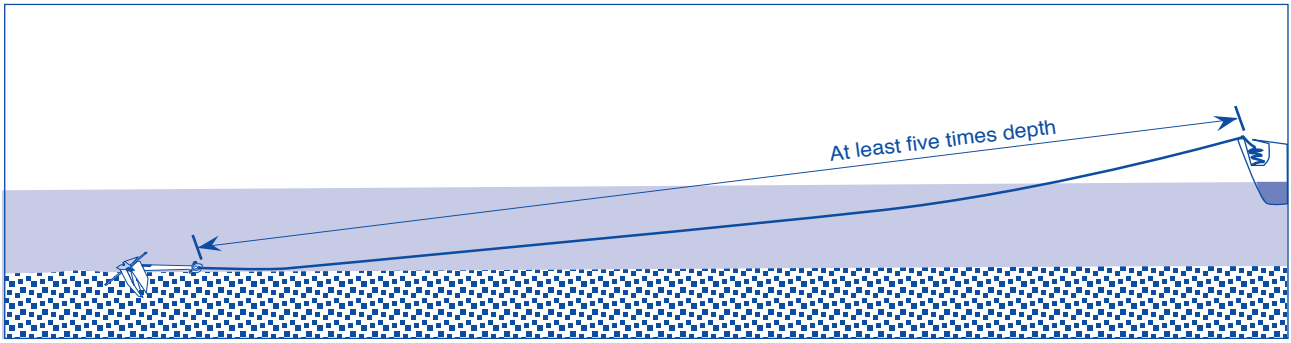

Figure 61.3 The scope of an anchor
4. Now run out five times that length and wait till the anchor holds as shown in Figure 61.3